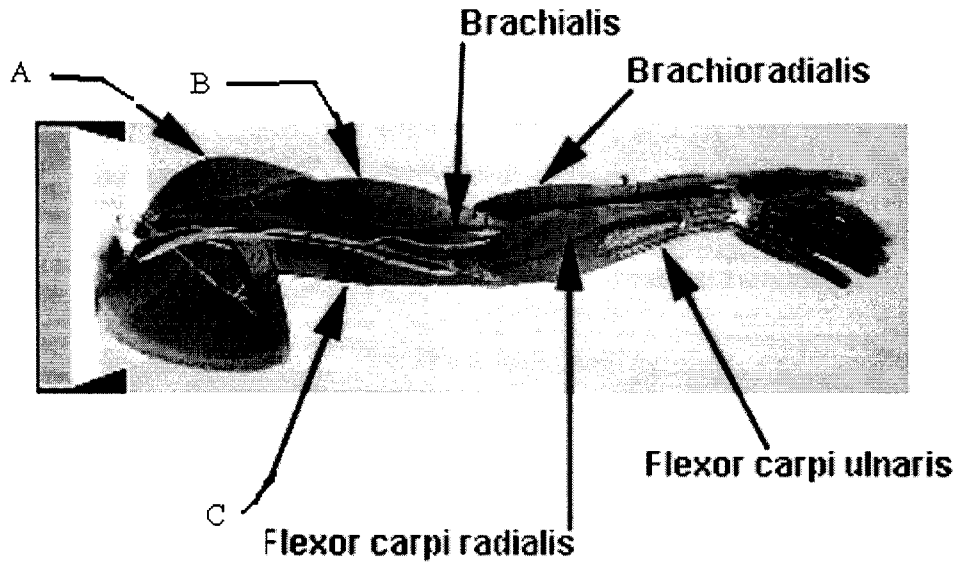

Figure 2 : Upper limb muscles
1.2 According to Figure 2, What are names of muscles A, B, and C? (3 points)